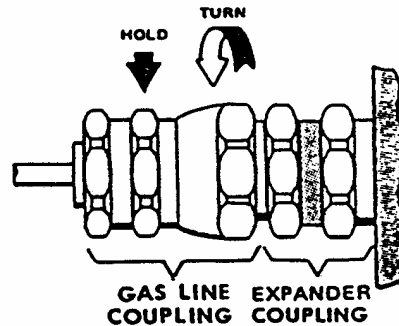

Figure 15 Disconnect Gas Line from the Cold Head
2. After breaking the connection, hold the coupling adapter with one wrench. Remove the gas line coupling from the cold head coupling with the second wrench. See Figure 15. Remove both gas lines from the cold head.